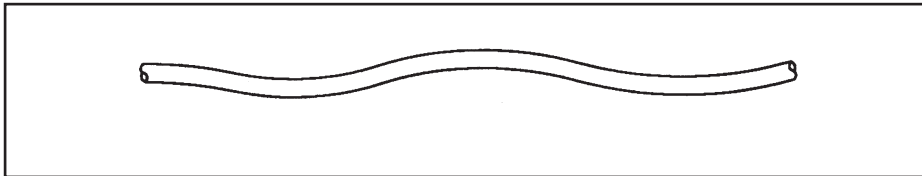

Figure 3.
- A curled sheath. See Figure 3.